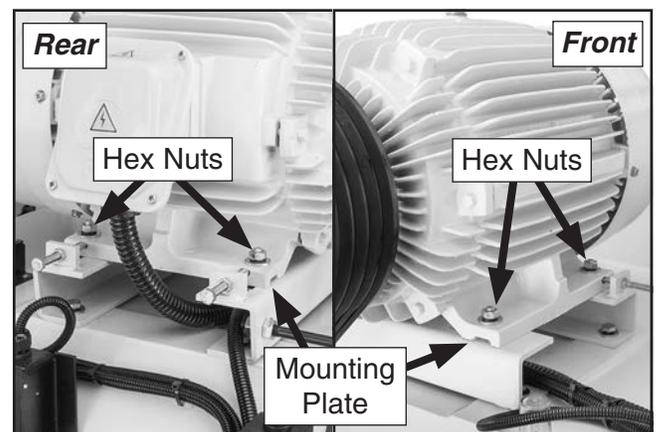

Figure 92. Location of upper cutterhead motor mounting hardware.
3. Loosen hex nuts on hex bolts that secure motor to mounting plate (see **Figure 92**).